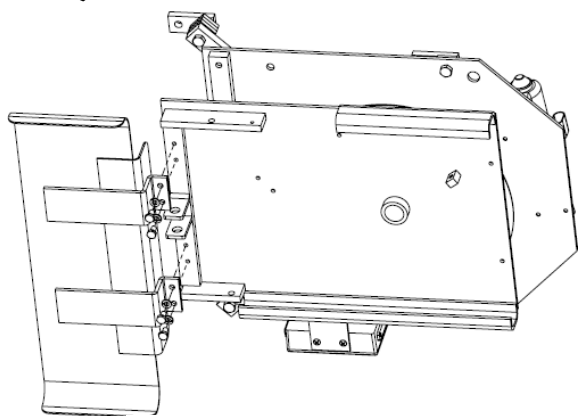

Figure 1.6
- b.) Bolt the Footrest Plate Assembly to the underside of the Center Plate Assembly (See Figure 1.6). The Center Plate Assembly has been pre-drilled; bolts must be inserted from underneath.